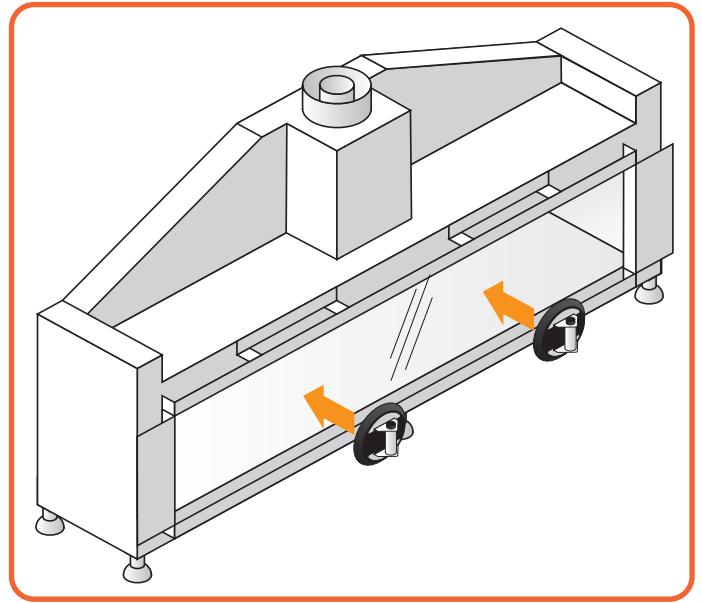

Figure 10.5 - Put on suction cup
- Put the section cup on the glass and make sure it is properly vacuumed, so it will not come off. (See **Figure 10.5**)